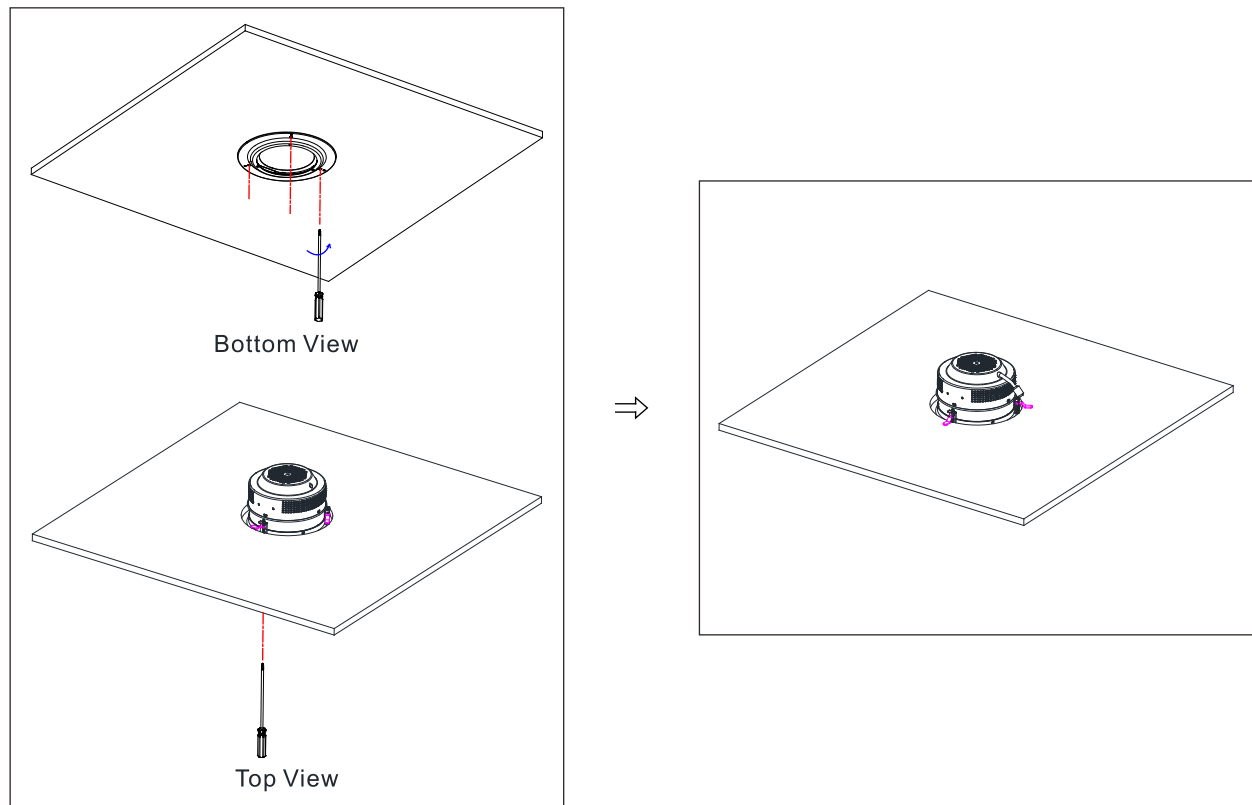

fig.4
3. Screw the 3 screws to the right to open the movable fixing plates outwards and press the back of the ceiling. Screw them until they cannot move (fig.4).